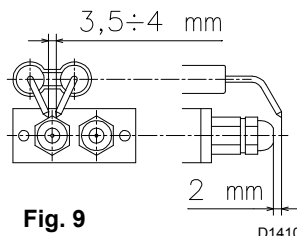

Fig. 9
L'ugello di 1° stadio è quello sotto gli elettrodi d'accensione, Fig. 9.
Controllare che gli elettrodi siano posizionati come in Fig. 9.
When the burner is still disassembled from the blast tube, fit the nozzle with the box spanner (1) (da 16 mm), after having removed the plastic plugs (2), fitting the spanner through the central hole in the flame stability disk (5). Do not use any sealing products such as gaskets, sealing compound, or tape. Be careful to avoid damaging the nozzle sealing seat. The nozzles must be screwed into place tightly but not to the maximum torque value provided by the wrench. The nozzle for the 1st stage of operation is the one lying beneath the electrodes, Fig. 9.
Make sure that the electrodes are positioned as shown in fig. 9.